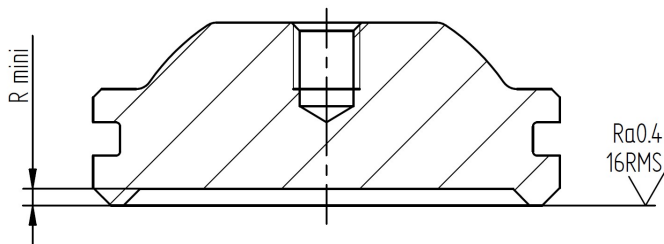

FIGURE 14 – DISC LAPPING
- Lap the disc seat as deemed necessary (figure 14 & table 7)